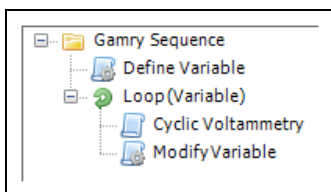

Figure 5 – Example of a sequence with modified variables.
Figure 5 shows an example of a sequence with several cyclic voltammetry (CV) tests. The scan rate is increased after each loop until a final value is reached. Functions for adjusting variables have the symbol .